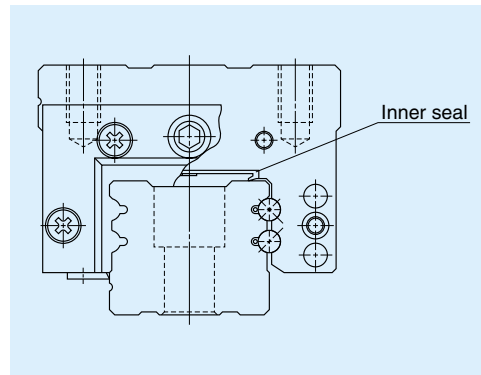

Fig. II-5-8 Inner seal when installed
**(4) Inner seal**
- The end seal installed on both ends of the ball slide cannot arrest entire foreign matters, though the missed amount is negligible. An inner seal protects the ball contact surface from such foreign matters which entered inside the ball slide (Fig. II-5-8).